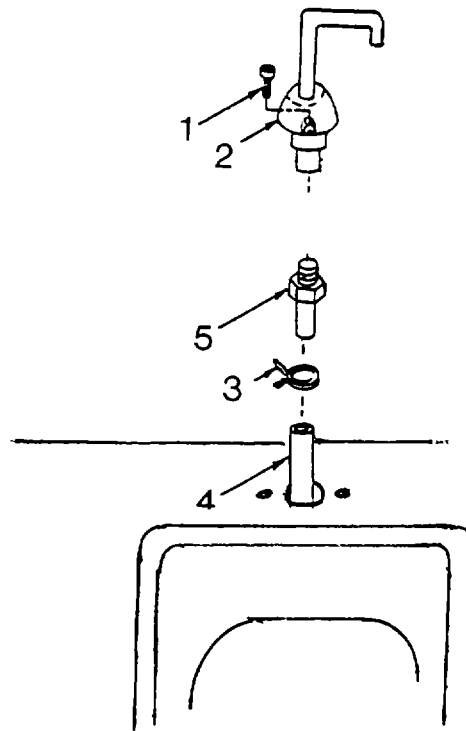

Figure 4-11. Faucet
- (2) Replace faucet (see Figure 4-11.)
- (a) Remove screws (1) and lift faucet (2) from countertop.
- (b) Remove clamp (3) and tubing (4).
- (c) Remove fitting (5) from faucet (2).
- (d) Apply RTV sealant (3, Appendix E) to fitting (5) and install on replacement faucet (2).
- (e) Install tubing (4) and secure with clamp (3).
- (f) Install faucet (2) with screws (1).